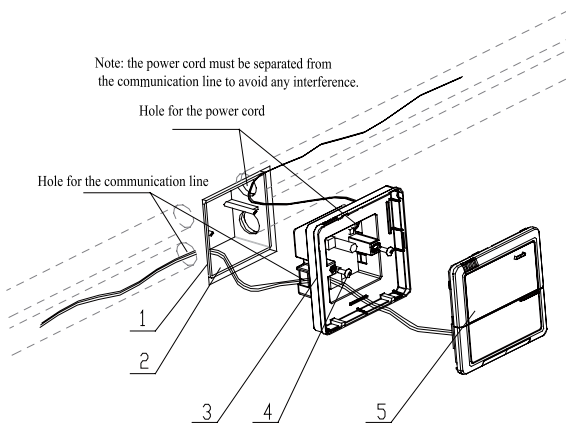

Fig. 7.6 Installation Diagram
- b. Embed the power supply box (2) as Fig. 7.6 for the installation of the bottom case (3).
- c. Connect the power cord and the communication line of the display board and then let both go through the power supply box (2).
- d. Fix the bottom case on the power box (2) by screws.
- f. Close the cover (5).